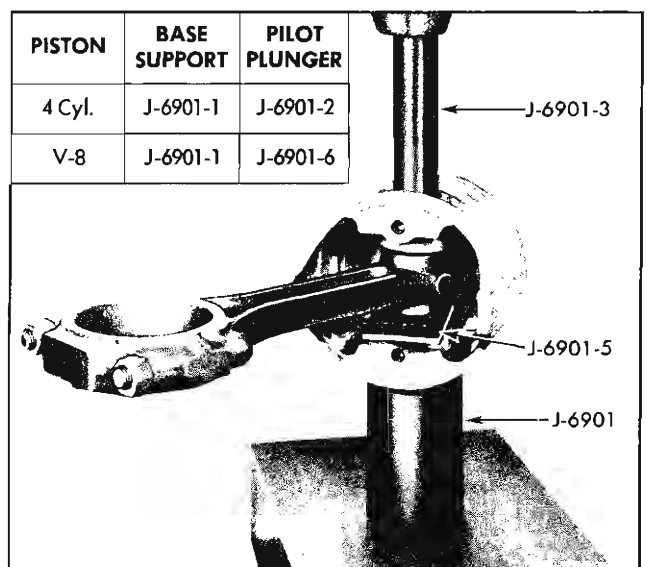

Fig. 6-59 Removal of Piston Pin
3. Using a suitable arbor press place the spring and plunger into the bore of the base support and position on an arbor press with the pilot plunger indexed in the bottom of piston pin bore. See Fig. 6-59 insert for correct base support and pilot plunger for the type pistons being serviced.
4. Place tool J-6901-5 between connecting rod and piston boss (Fig. 6-59).
5. Place tool J-6901-3 (Fig. 6-59) in piston pin and press piston pin down until pin bottoms in tool J-6901.
9. Using tool J-6901-3 (Fig. 6-59) press pin out of piston and connecting rod.